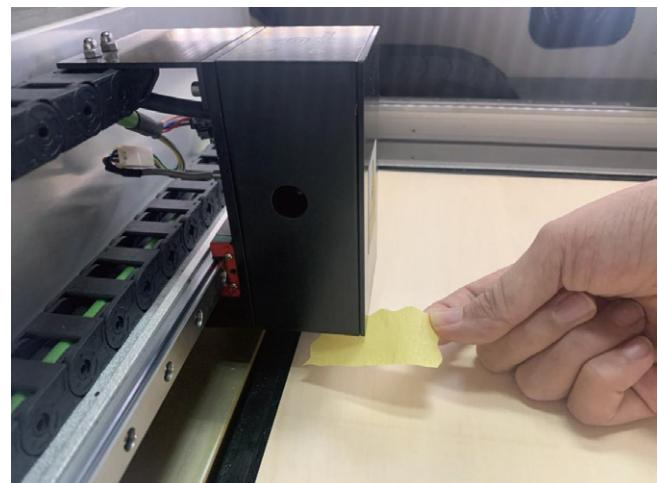

Figure 3
2) After checking the air pump and knob, power on the machine, turn on the machine switch, place a thin paper or string under the laser nozzle to test whether there is gas blowing, as shown in Figure 3, if there is gas blowing, there will be no fire.